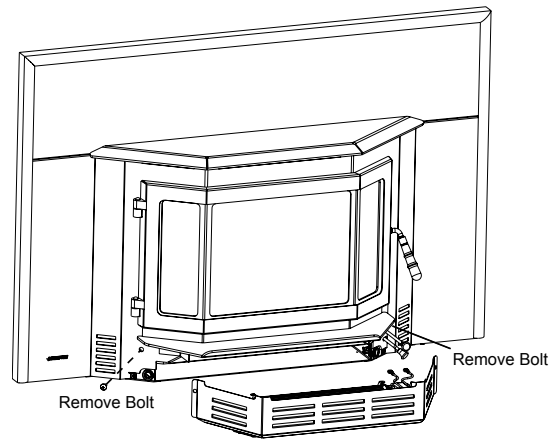

Figure 14D
1. Remove bolts from both sides of the insert and slide the lower cover towards you. **See Figure 14D**